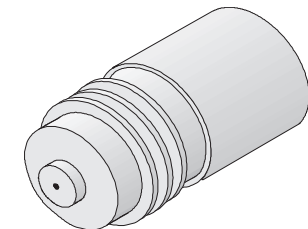

Figure 3. Glass Support Bead Holding Fixture
- (1) Flux the glass support bead and insert it, long-end first, into the 01-303 Glass Support Bead Holding Fixture (Figure 3).